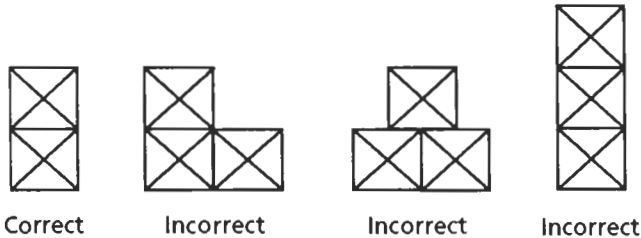

Figure 5 - Rules of Lamination
4. Glue pieces as required. Remember, if you plan to glue pieces together (laminates), you must follow the rules of **lamination**. (See Figure 5.)